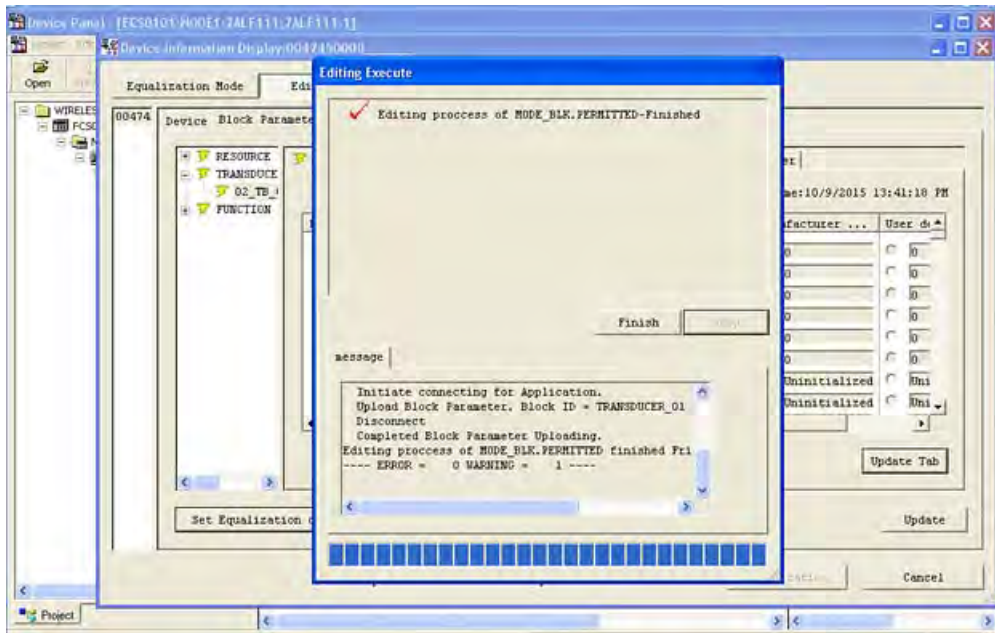

Figure 89 Device Information Display Window: Editing Execute
4. Click on the **Update Tab** button to upload of the data from the device to the window. Modification of a parameter triggers an automatic download of the modified value to the device (Figure 89).